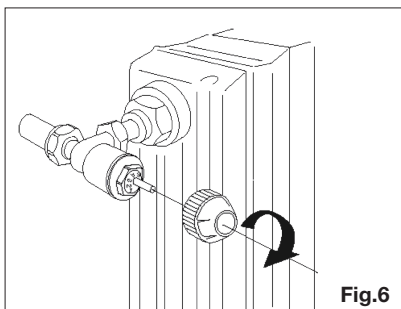

Fig.6
- 1) Remove the cap or handwheel from the valve body (**Fig.6**).